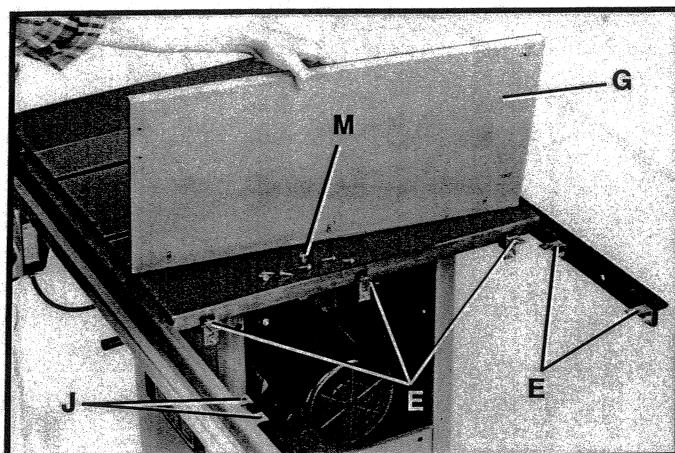
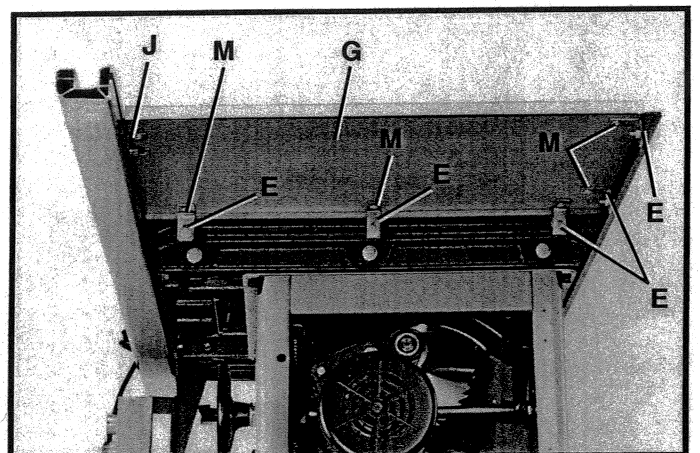
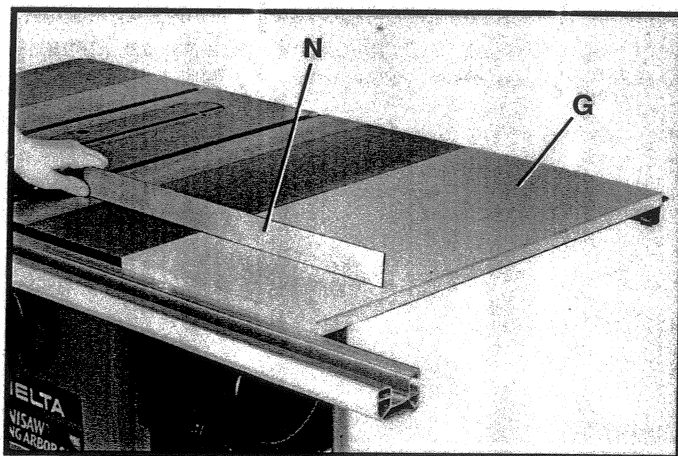

Fig. 23
Fig. 24
Fig. 25
7. Position table board (G) Fig. 23, onto the seven angle brackets. Move bracket (J) in a supporting position for the table. Mark the places through the holes in the angle brackets onto the underside of the table board where holes must be drilled to support the table. Remove the table and tighten hardware for bracket (J).
8. Using a 1/8" diameter drill bit, drill seven holes, as shown in Fig. 23, 3/8" deep in the underside of board (G) at the areas marked in **STEP 7**. Place board (G) Fig. 24, onto angle brackets (E) and (J) and fasten the table to brackets with seven #8 x 3/4" wood screws (M), four of which are shown. **CAUTION:** Do not overtighten table mounting screws. Over-tightening screws in particle board may cause them to strip.
9. Using a straight edge (N) Fig. 25, make certain the table surface (G) is level with the front and rear of the saw table. If an adjustment is necessary, adjust the height of any of the six angle brackets (J) and (E) Fig. 24.